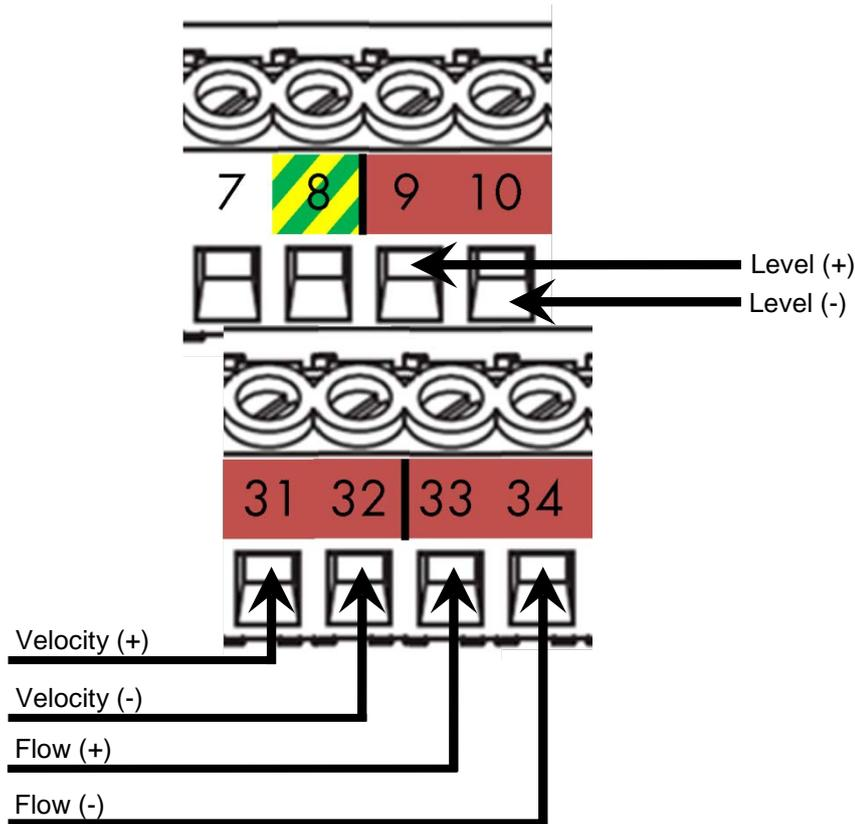

Figure 9: Connections for 4-20 mA outputs
4. Install each wire into the terminal block as shown in Figure 9.